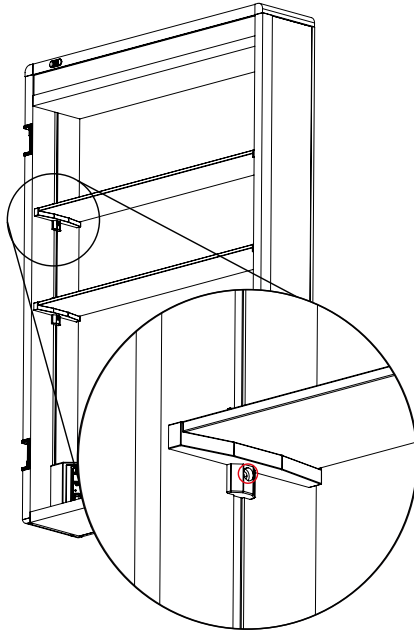

Fig. 5. - Shelf Bracket Adjustment
9. When the cabinet is correctly fitted, adjust the shelf support brackets to your desired height ensuring the matching brackets are level. This is done by slightly loosening the screw, do not remove the screw completely. Once in position tighten screw to secure the bracket and put the glass shelf into the shelf support bracket, *see Fig. 5*.